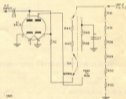

FIGURE 3.3 A.C. VOLTMETER CIRCUIT
a. Normal Position - With reference to Figure 3.3 and the switch in the normal position, the a.c. voltage to be measured is rectified by one-half of the 6AL5 twin diode, and the resultant a.c. voltage is applied to the divider network. Part of this voltage, as determined by the position of the RANGE Control, is fed to the input grid of one of the triodes of the bridge tube causing the bridge circuit to function. In this normal position the instrument is calibrated to read in terms of RMS voltages of a sine wave.
2. Negative contact potential is developed across the rectifier tube before any input voltage is applied. Due to the normal emission of electrons by the cathode. In either position of the switch (normal or peak-to-peak), this negative potential is applied across the input voltage divider network and would cause the meter to deflect. To compensate for this undesirable deflection, a positive voltage from the 84 supply equal to the contact potential is fed to the voltage divider network through a 50-megohm resistor. The A.C. Voltmeter, 1200 volts, with reference to Figure 3.3 (a), consists of one-half of a 6 Z 5 Diode Rectifier. This rectifier voltage is applied to R44 of the voltage divider network and impressed on a grid of the bridge tube circuit.